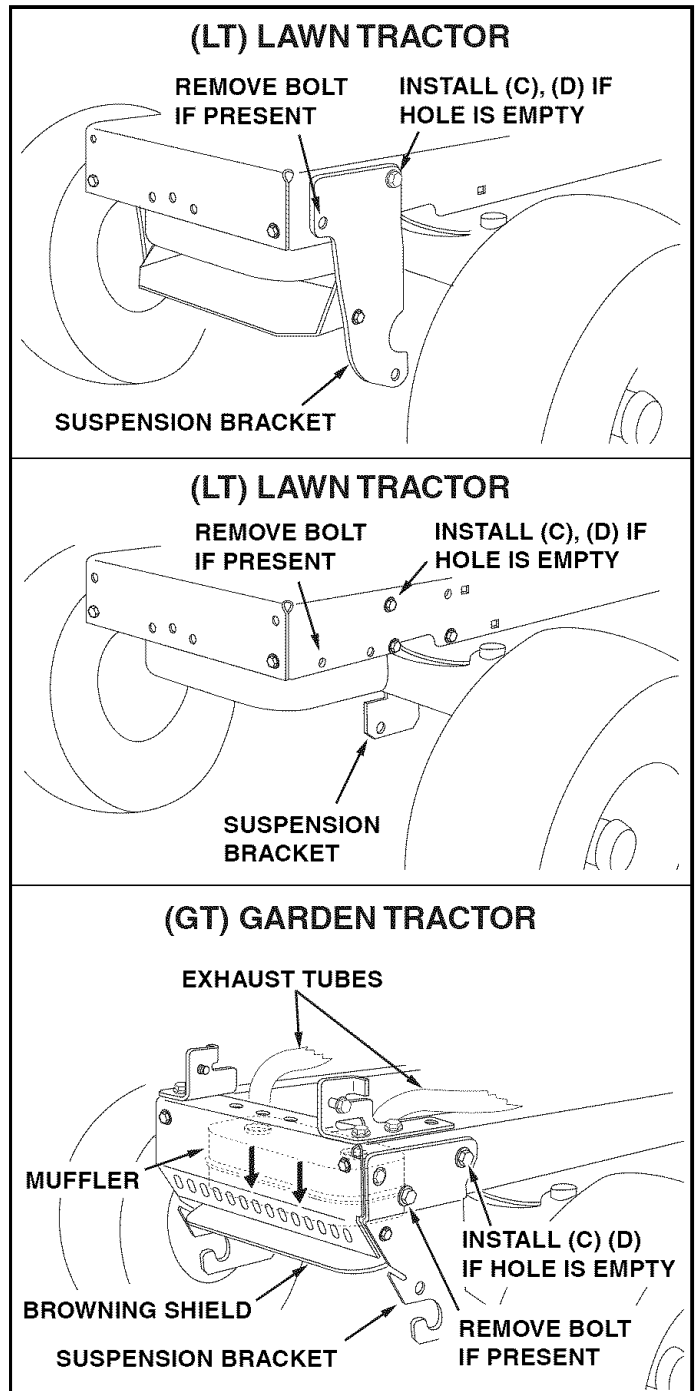

FIGURE 2
### STEP 2: (SEE FIGURE 2)
- If **rear** mounting holes in tractor frame are empty, install hex bolts (C) and hex nuts (D) supplied in parts bag. See figure 2.